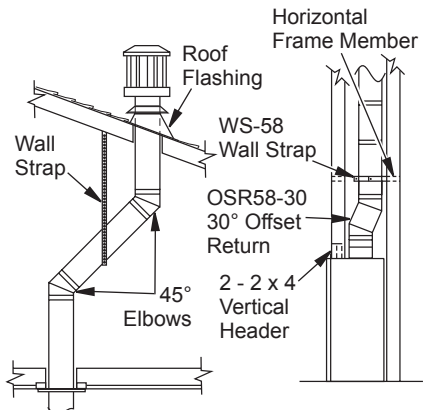

Figure 26 - 45° and 30° Offset with Wall Strap
- Determine the route your vertical venting will take. If ceiling joists, roof rafters or other framing will obstruct the venting system, consider an offset (see Figure 26) to avoid cutting load bearing members. **Note:** Pay special attention to these installation instructions for required clearances (air space) to combustibles when passing through ceilings, walls, roofs, enclosures, attic rafters, etc. Do not pack air spaces with insulation. Also note maximum vertical rise of the venting system and any maximum horizontal offset limitations.
Note: If an offset is needed to avoid obstructions, you must support the vent pipe every 3 feet. Use wall straps for this purpose (see Figure 26, page 16). Whenever possible, use 45° elbows instead of 90° elbows. The 45° elbow offers less restriction to the flow of the flue gases and intake air.
5. Place the flashing over the pipe section(s) extending through the roof. Secure the base of the flashing to the roof and framing with roofing nails. Be sure roofing material overlaps the top edge of the flashing as shown in Figure 26, page 16. There must be a 1" clearance from the vent pipe to combustible materials.